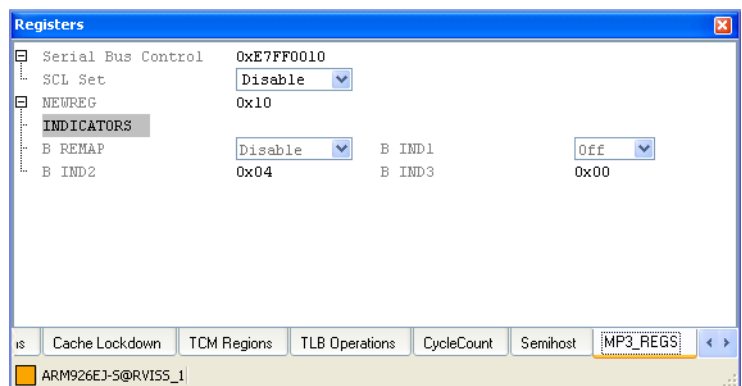

Figure 4-26 MP3_REGS tab in the Registers view
3. Select the **MP3_REGS** tab to view the custom registers. An example is shown in Figure 4-26.